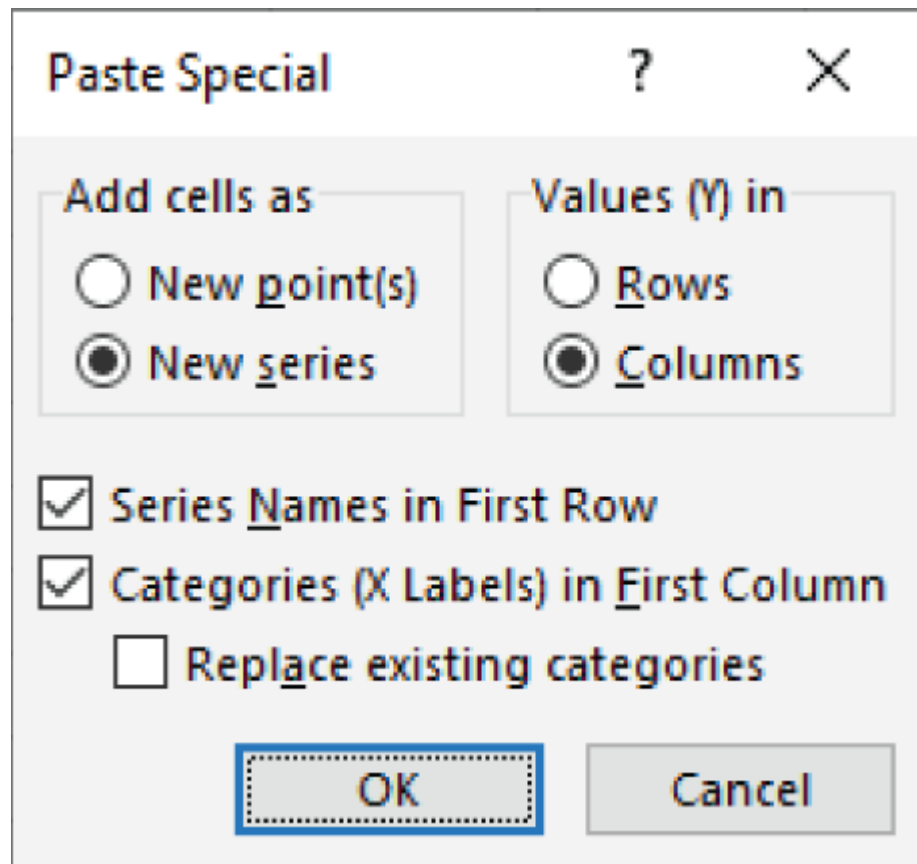

Figure 9.18: The Paste Special dialog for charts
2. Select the chart and choose Paste ⇌ Paste Special from the Home tab on the Ribbon to show the Paste Special dialog. Change the setting as shown in Figure 9.18 and click OK.